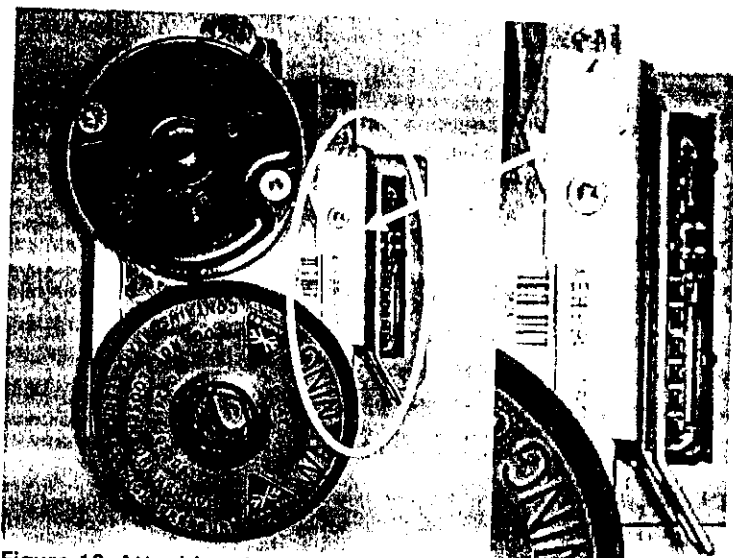

Figure 19: Attaching the bracket to the SBC hydraulic unit
19. Attach bracket with self-tapping screw to the SBC hydraulic unit (Figure 19). In order to prevent the self-tapping screw from snapping off, the screw must be positioned **absolutely** straight and tightened with the prescribed torque of 7 Nm.